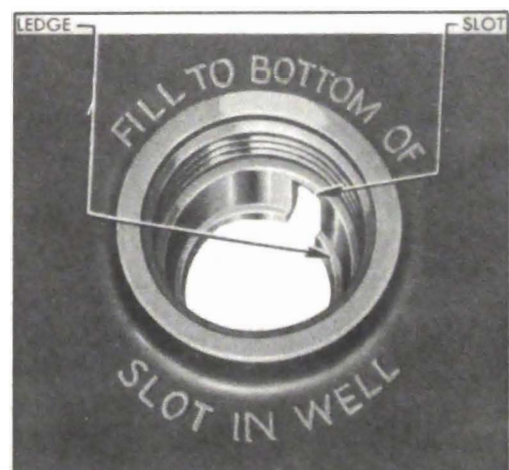

Figure 1-6—Battery Filler Well
7. *Battery.* Add distilled water to bring level to ledge at bottom of slot in well on battery having filler well shown in figure 1-6. With other type filler wells add water to 1/4" above separators. WARNING: *Do not over fill.*